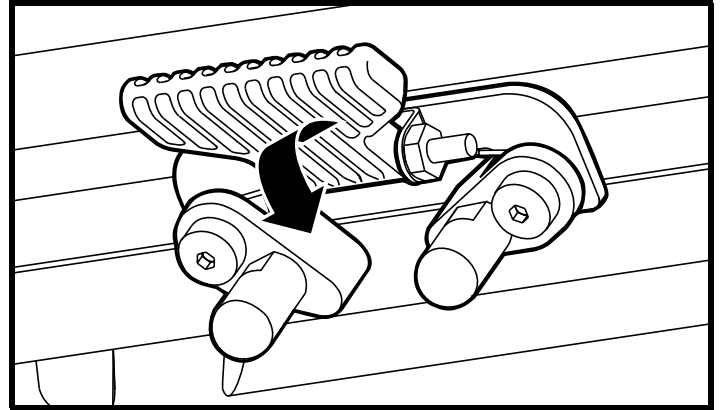

Figure 11. Seat Latch Safety - Latched
4. Flip the seat latch safety down. See figure 11.